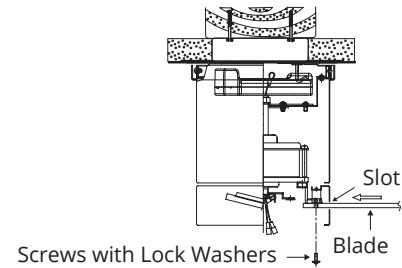

FIG. 19
1. Insert the blade through the slot in the housing. Align the holes in the blade with the fan motor assembly holes and secure with blade attachment screw with lock washers (**FIG. 19**).